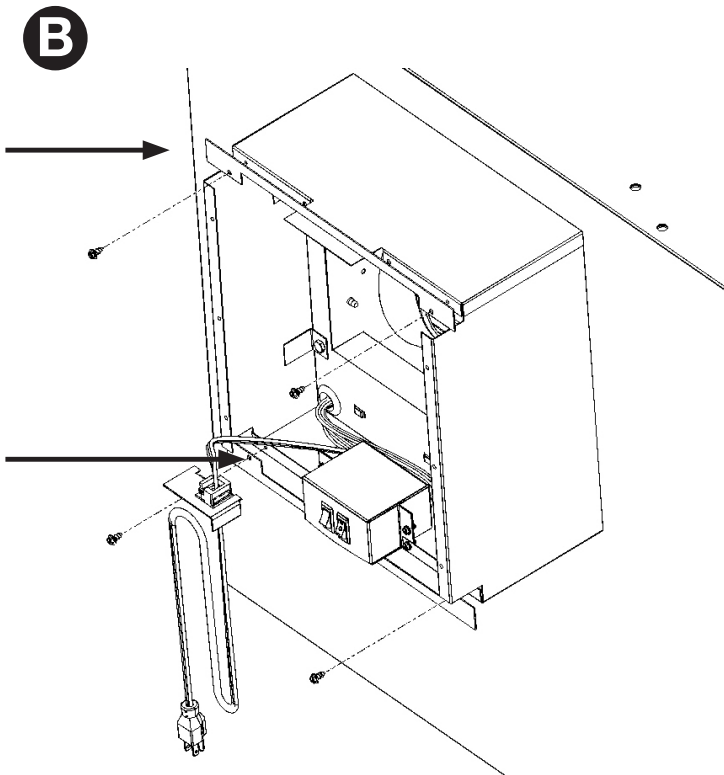

Fig. 3 - Spacing Control Plate Removal
- Remove the four screws attaching the spacing control plates (Fig. 3).
- B. Reinstall spacing control plates (Step 1B , Fig.3)